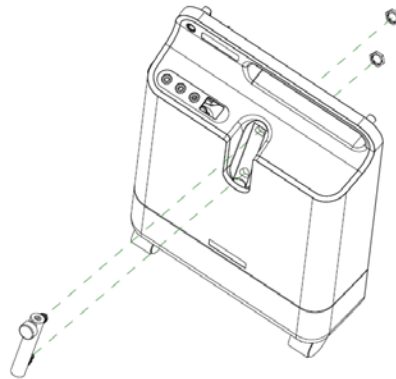

Figure 8-30: FLOW METER REMOVAL/INSTALLATION
3. Place the two labels onto the Front cabinet and align with the clear section of the new Serial/Warning label included in the front cabinet repair kit. Refer to Figure 8-30.
4. Place the Serial/Warning label over the generic labels and onto the Front Cabinet in the proper location. Refer to Figure 8-30.